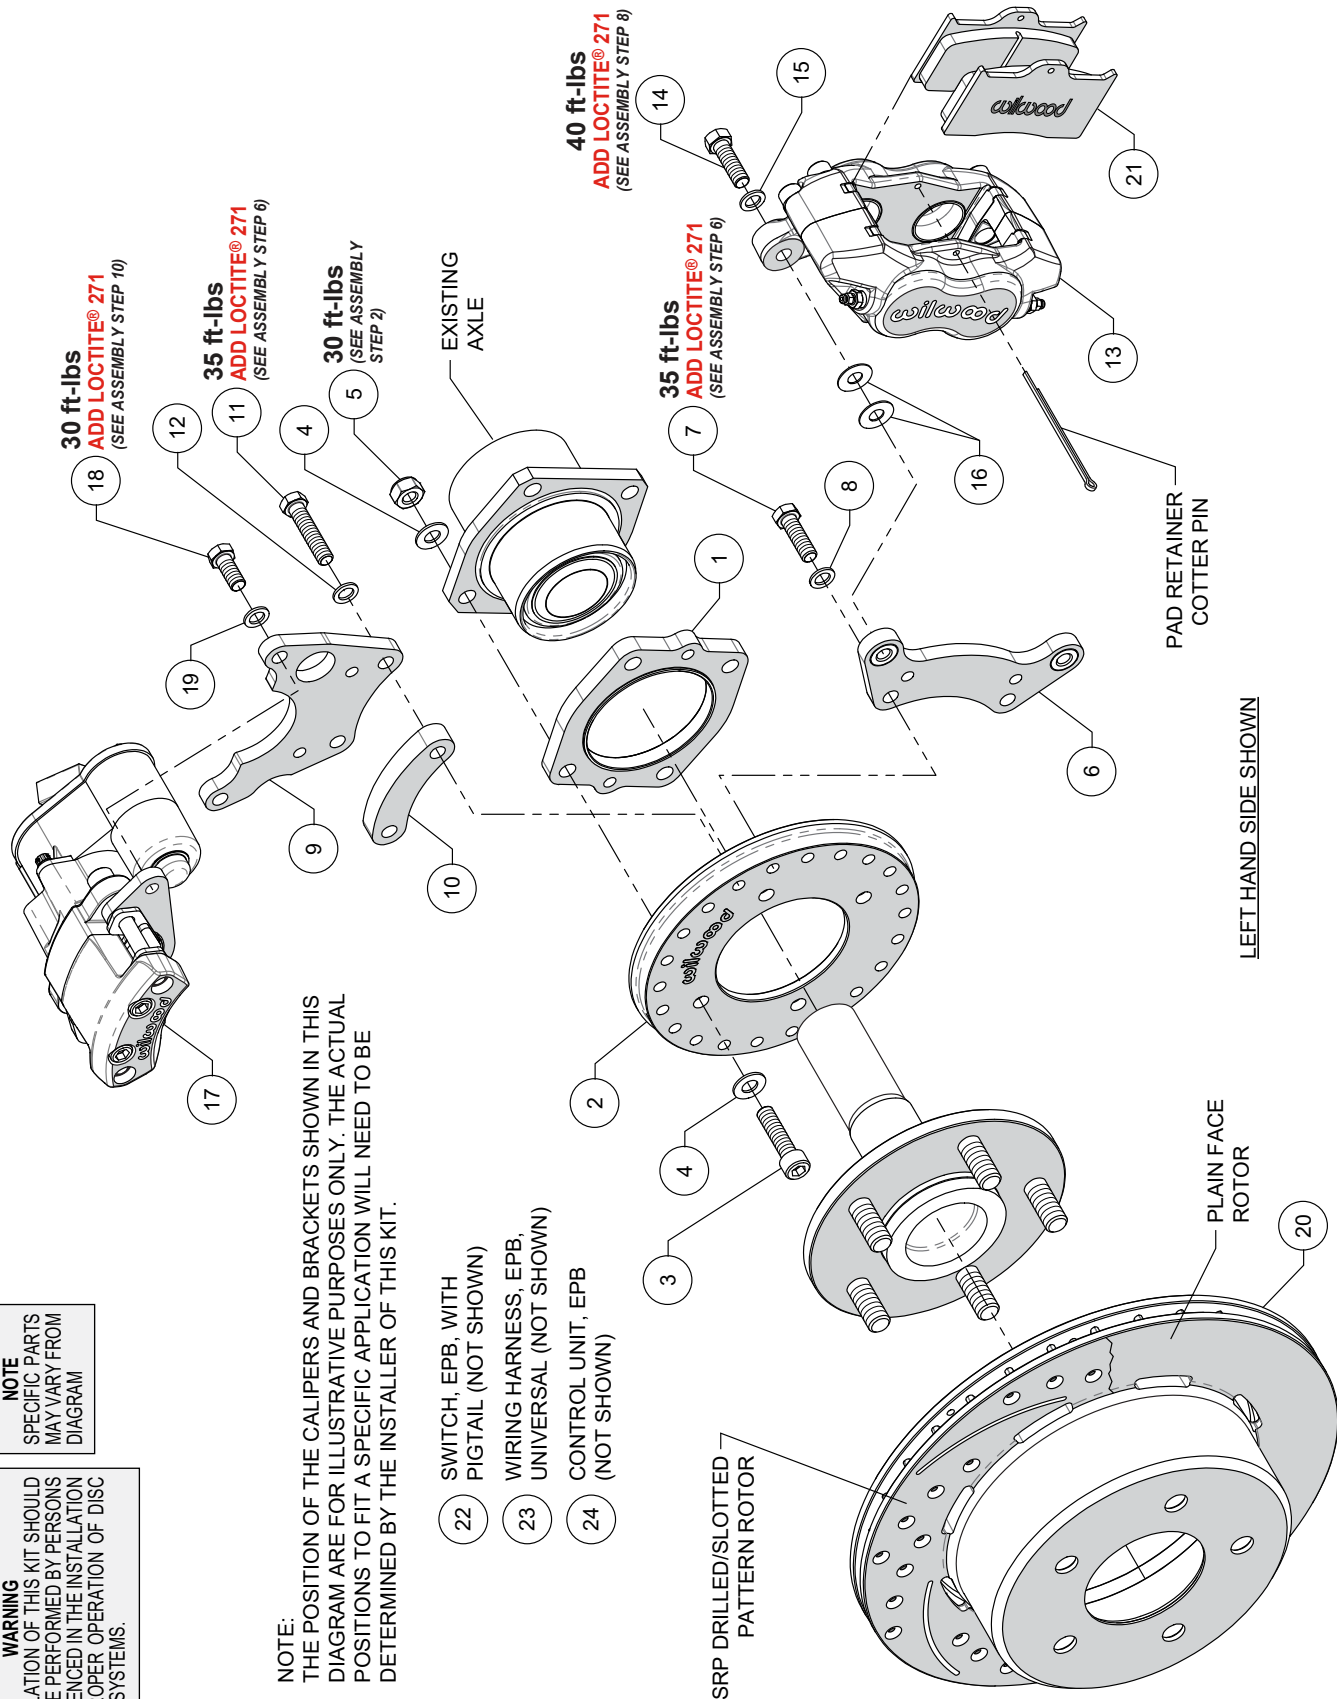

Figure 1. Typical Installation Configuration
NOTE: Numbers in parenthesis refer to the parts list and Figure 1 on the preceding pages.
STEP 1 Slide the backing plate spacer (1) onto the axle housing as shown in Figure 1 and Photo 1. **NOTE:** Ensure the spacer fits flush against the axle flange.
STEP 2 Orient the backing plate (2) as shown in Figure 1 and Photo 2 and mount it to the axle housing flange using bolts (3), washers (4), and lock nuts (5). Ensure the backing plate fits flush against the spacer (1). Torque lock nuts (5) to value shown in Figure 1. Reinstall the axle into the axle housing.
STEP 3 Start by determining the best location for the service caliper (13). This caliper is usually mounted in the 3:00 or 9:00 o'clock position, but may be rotated up or down approximately 45 degrees and still allow for proper bleeding, Photo 3. Orient the service caliper bracket (6) as shown in Figure 1 and Photo 4, and install to the backing plate (2) in the desired location using bolts (7) and washers (8). Temporarily tighten bolts. Next, mount the service caliper to the bracket using bolts (14) and washers (15). Temporarily tighten bolts. Check that the caliper (including inlet fitting and hose) has sufficient clearance to all surrounding components through the full suspension travel. Relocate the caliper/bracket on the backing plate as needed to ensure proper clearance is achieved.
STEP 4 Determine the best location for the EPB caliper (17). **NOTE:** The EPB caliper motor extends farther inboard than the service caliper and therefore needs additional consideration when determining a mounting location with sufficient clearance. In the example application shown in Photo 5, the EPB caliper has
STEP 5 Orient the EPB caliper bracket (9) as shown in Figure 1. Install to the backing plate (2) in the desired location using bolts (11), washers (12), and spacer (10), Figure 1 and Photos 6 and 7. Temporarily tighten bolts. **NOTE:** The EPB bracket is reversible. In one direction the bracket will position the EPB caliper closer to the service caliper, and vice versa if reversing the bracket. Next, mount the EPB caliper (17) to the bracket (9) using bolts (18) and washers (19). Temporarily tighten bolts. **NOTE:** EPB calipers are left and right handed, however they can be used on either side of the vehicle to best suit your specific application. Check that the EPB caliper (including wiring harness connector) has sufficient clearance to all surrounding components through the full suspension travel. Relocate the EPB caliper/bracket on the backing plate (2) as needed to ensure proper clearance is achieved.
STEP 6 Once the caliper positions have been determined, remove both the service (13) and EPB (17) calipers, leaving both brackets in place on the backing plate. For both brackets, remove the bolts (7 and 11) one at a time, apply red *Loctite*® 271 to the threads, and torque to value shown in Figure 1.
STEP 7 Slide the rotor (20) onto the axle flange. **NOTE:** The rotor must fit flush against the axle flange or excessive rotor run out may result. Install three lug nuts (finger tight) to keep the rotor in place while continuing with the installation, Photo 8.